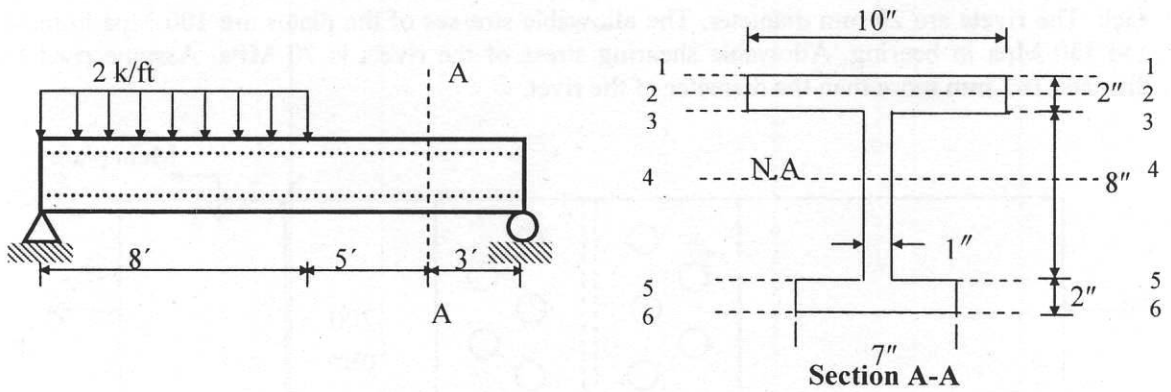

Fig.7
7. A steel beam with load is shown in Fig.7. Calculate shearing stress at levels indicated at section A-A. Also draw the shear stress distribution diagram.